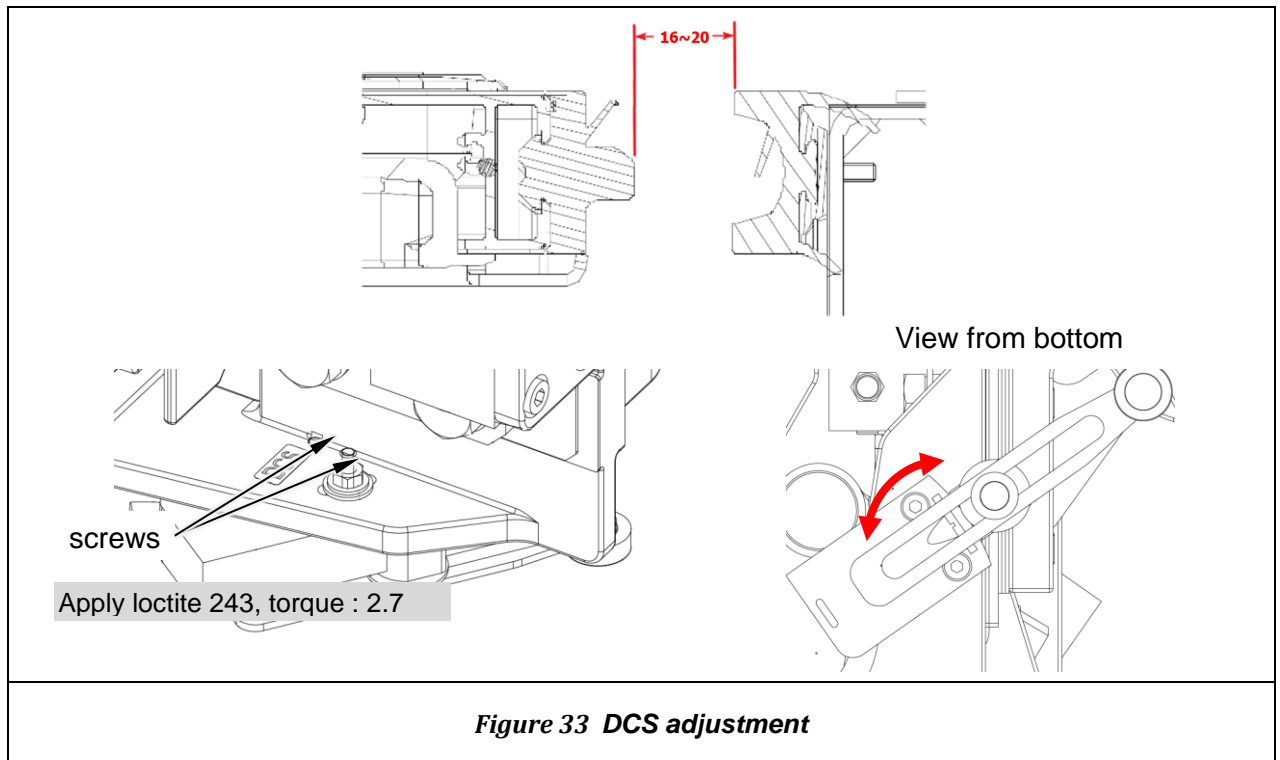

Figure 33 DCS adjustment
- b. Loosen the fixing screws (item 1, Figure 33)